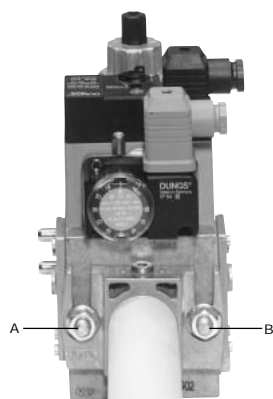
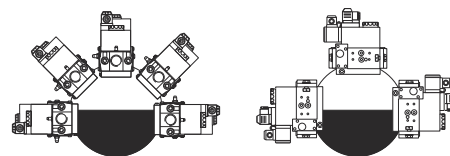

Fig. 4
Fig. 7
3. tighten screws A, B, C and D (Fig. 4 - Fig. 5), according to the mounting positions (Fig. 7);